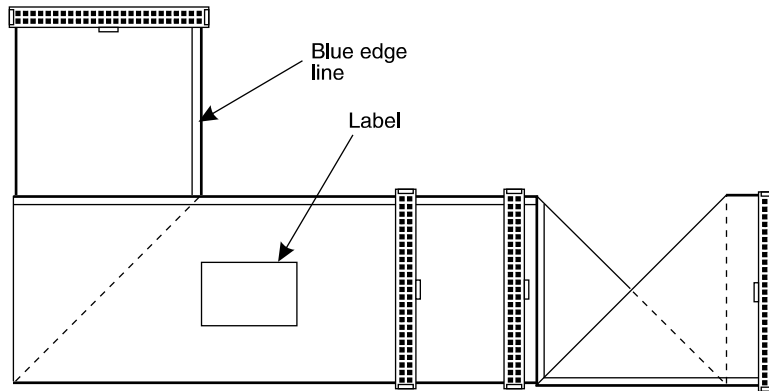
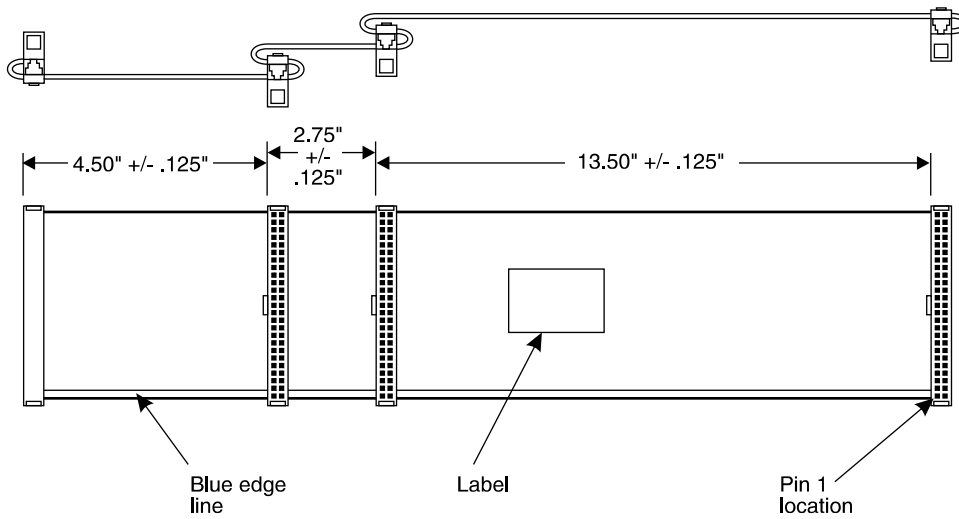

Figure B-25. SCSI Cable for SCSI Peripherals — Folded View
Figure B-26. SCSI Cable for SCSI Peripherals
1. Figure B-25 shows the SCSI cable as it comes from the factory. Attach the SCSI cable by aligning it with the pins on the cable receptacle and pushing it on. All connectors are "keyed" to prevent incorrect installation (see Figure B-26).
11. Unplug the disk activity cable assembly from J19 pin header on the backplane as shown in Figure B-2, Figure B-3, Figure B-13, and Figure B-25.
2. Visually inspect the backplane to verify that the J20 jumper shown in Figure B-25 is present. If this jumper is not provided, remove the jumper from the defective backplane and assemble to the replacement. Make a note on the trouble report and attach to the defective backplane.
9. Make a final, visual inspection to ensure that all cables and harnesses have been reconnected to their appropriate backplane and circuit card terminations. Figure B-2, Figure B-3, Figure B-13, and Figure B-25 should be used for reference during the connection of all cable assemblies.